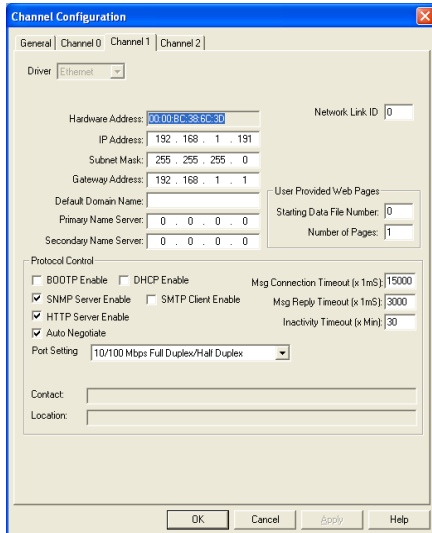

**Figure 2. RsLogix Programming Environment.**
Within a MicroLogix PLC, communication setup is performed within the RsLogix Programming Environment. Figure 2 displays a screen snapshot of a simple ladder logic program that is designed to poll the two (2) totalization and two (2) flow-rate registers of an EtherMeter, deposit the data into the N7:xx integer (16-bit) registers, and then copy the data into the L12:xx long integer (32-bit) registers: